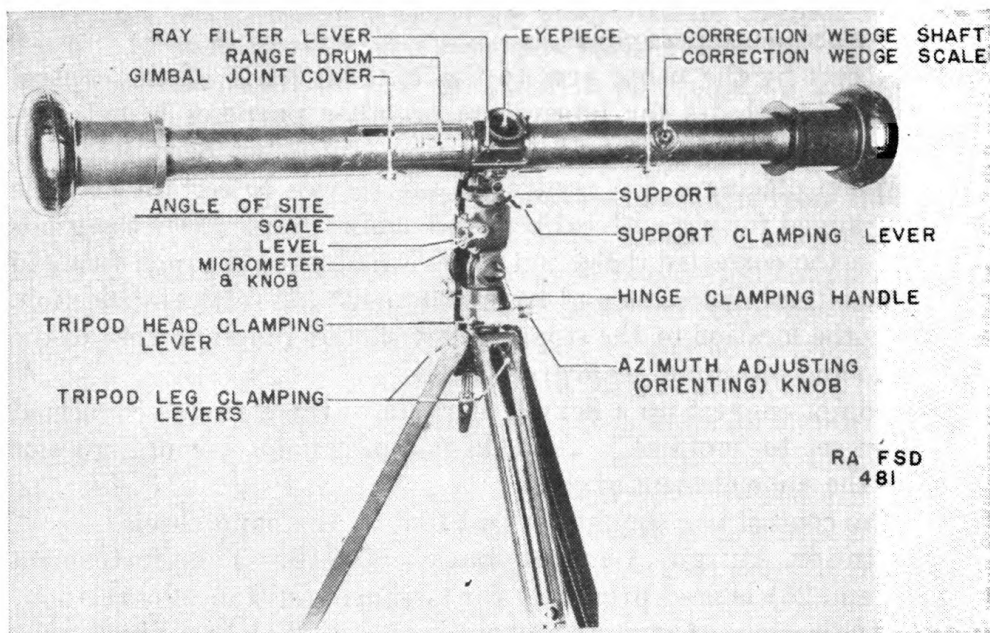

FIGURE 25.—Range finder, 1-meter base, M1916, rear view.
c. Care and preservation.—(1) Do not kink the flexible shafts nor bend them at a short radius. Exercise care to prevent their being chafed, rubbed, or crushed.
(2) Keep the flexible shaft casing free from oil.
(3) Keep the ends of the couplings clean and lightly oiled with neutral oil, and the covers in place when not in use.
(4) Ball bearings and gears are lubricated at assembly. Lubrication of these parts is required only at long intervals and is to be performed by ordnance personnel.
(5) Access by the using arm to the internal parts of the control box or flexible shafts for lubrication or other purposes is not permitted. Adjustment of stops by the using arm is not permitted.
(6) When placing a new control box in service be certain that the box is arranged for use with caliber .50 machine guns. Note the graduations on the corrected deflection scales which should range from 75 to 525 for lateral deflection and from 200 to 425 for vertical deflection. Note also the location of the stops. They should function close to the maximum and minimum scale graduations.
(7) Do not connect up a flexible shaft until the elements connected have been set to "normal." Also do not interconnect couplings not carrying the same element of data.
(8) The control box should not be lifted by the handwheels.
30. Finder, range, 1-meter base, M1916.—This instrument (figs. 25 and 26) is used primarily for measuring distance by triangulation. Indications of azimuth and angle of site are also provided.
b. Operation.—(1) To set up the instrument, clamp the tripod legs securely at the desired length, embed them firmly in the ground, and tighten the leg clamping levers. It is necessary that the azimuth scale be in a substantially horizontal plane. Place the range finder on the mount and latch it in position. Position the longitudinal axis horizontally and clamp with the hinge clamping handle. Procedure for a vertical base line is described in (5) below.